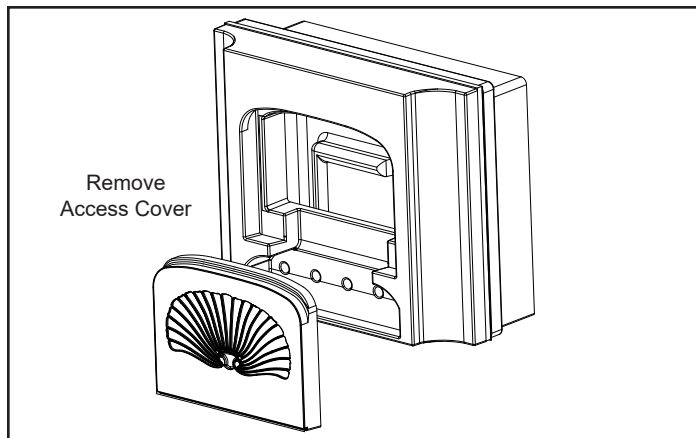

Figure 5.7 - Remove access cover.
2. Remove the access cover by pulling straight up and out. (Figure 5.7)